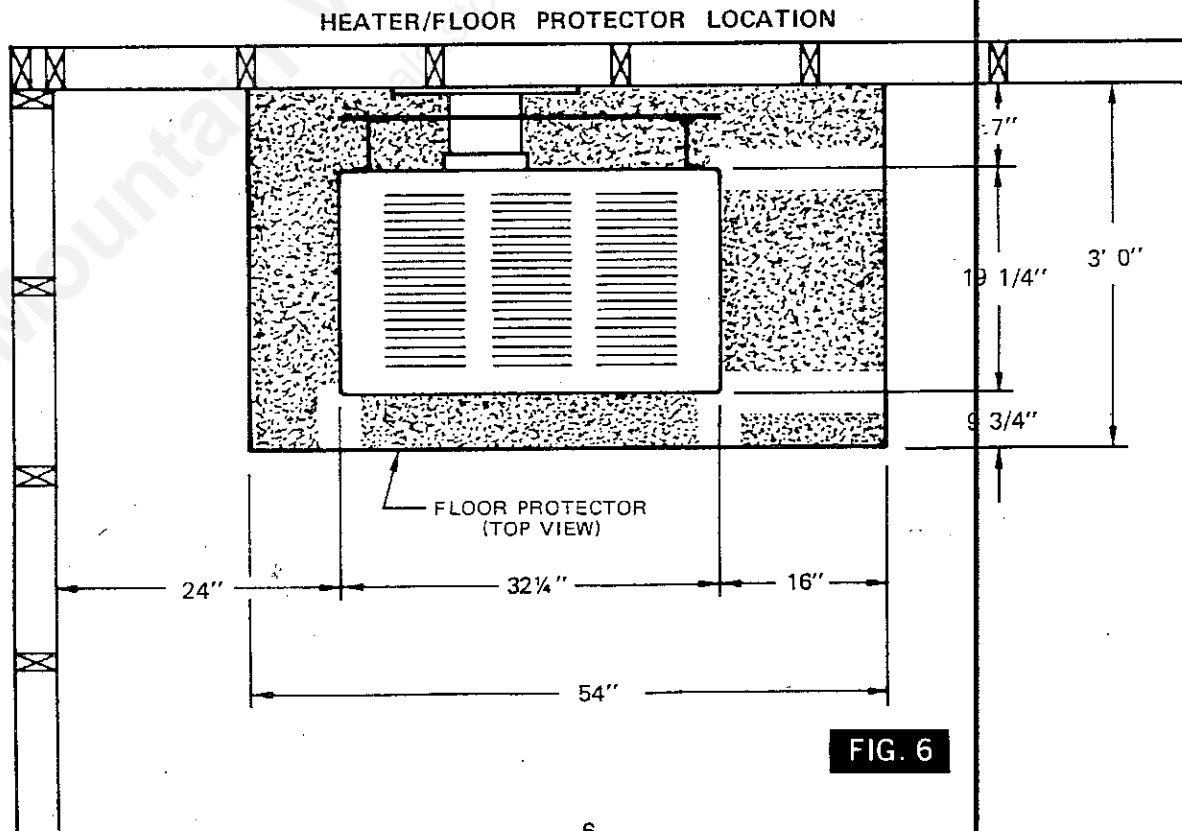

FIG. 6
1. The heater may be installed with a minimum backwall clearance of 7" installed with the heat shield as shown in Fig. 6.